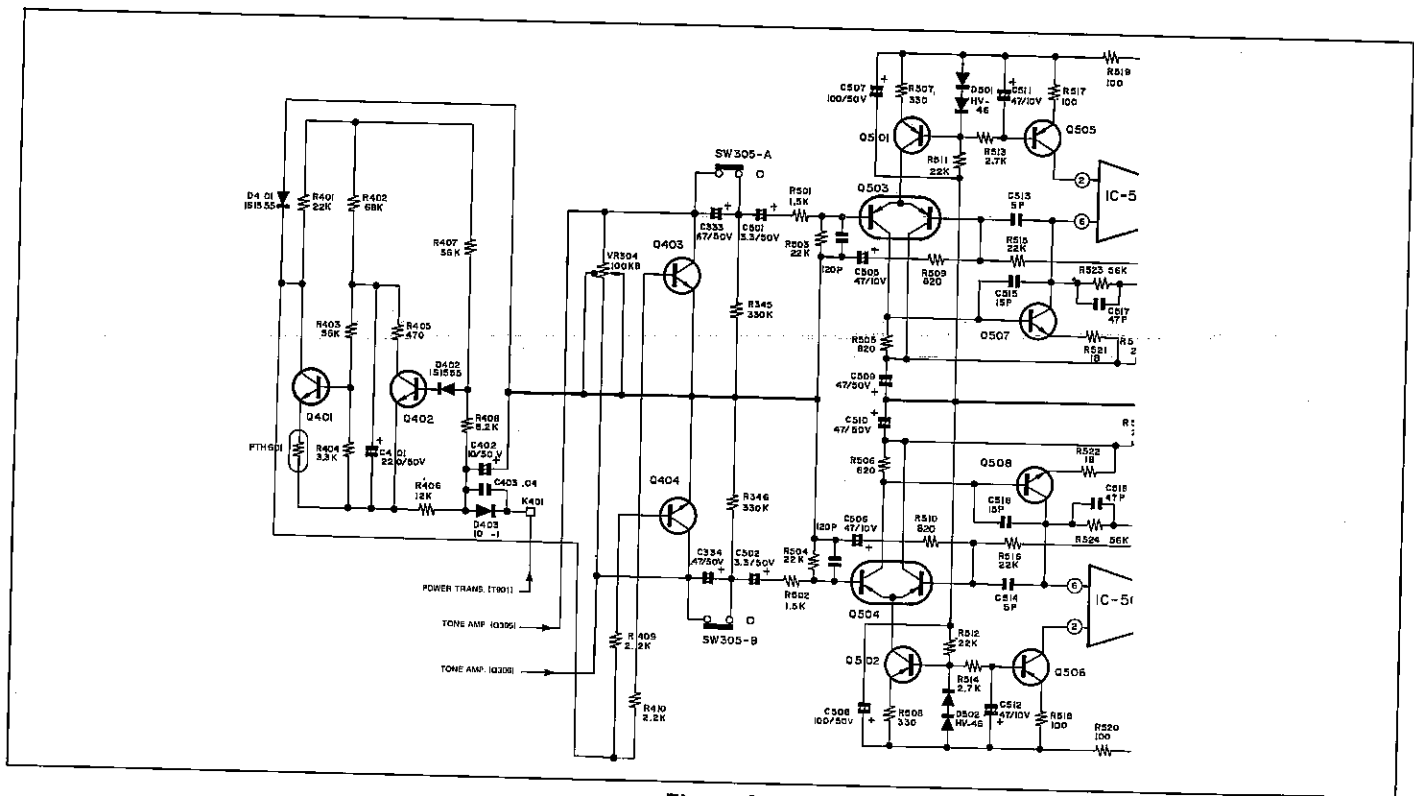

Figure 8
■ MUTING CIRCUIT (See Figure 8)